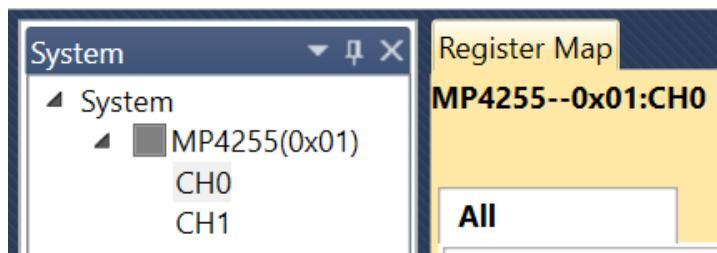

Figure 1: Setting the Controls for V_{OUT1} and V_{OUT2}
6. Click the button with the search icon to obtain the address, then right-click “MP4255(0x01)” to input the I²C slave address (see Figure 1).
7. Double-click CH0 or CH1 for the pages that control V_{OUT1} and V_{OUT2} (see Figure 1). V_{OUT1} and V_{OUT2} are controlled separately via the I²C GUI.⁽⁴⁾ CH0 controls V_{OUT1}, and CH1 controls V_{OUT2}.